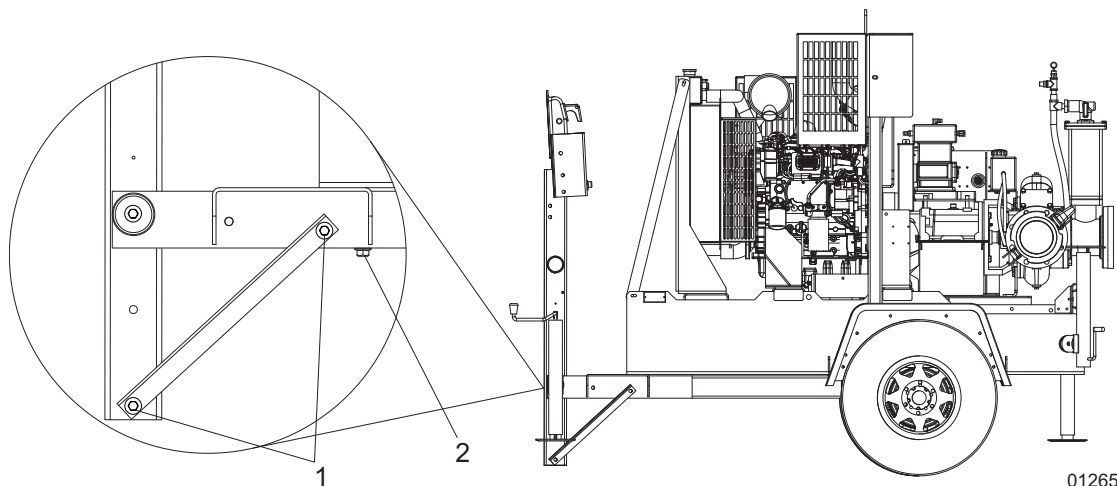

Figure 3 - Removing the Shipping Brace
2. Remove the mounting hardware securing the tongue shipping brace to the trailer frame. Refer to #1 in Figure 3.
3. Remove the shipping brace and slide it into the trailer tube opening. Secure the brace to the trailer with the bolt located on the underside of the trailer and a new nylon locking nut. Refer to #2 in Figure 3.